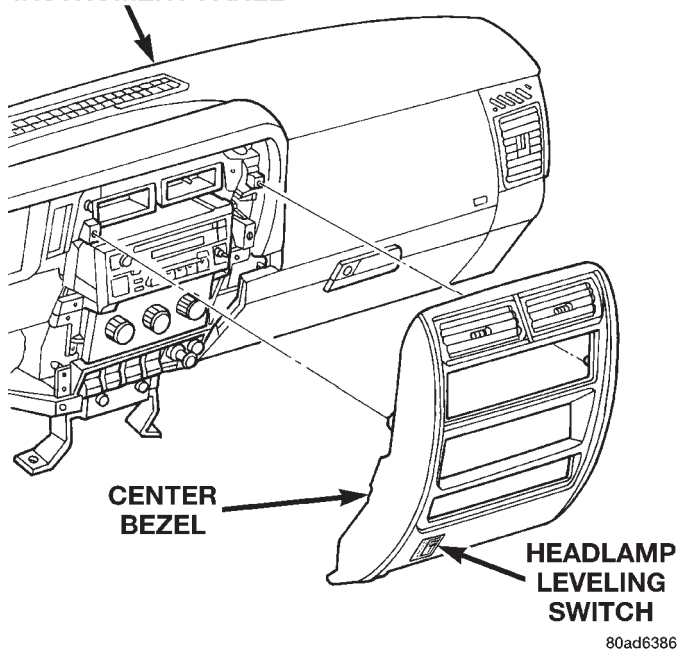
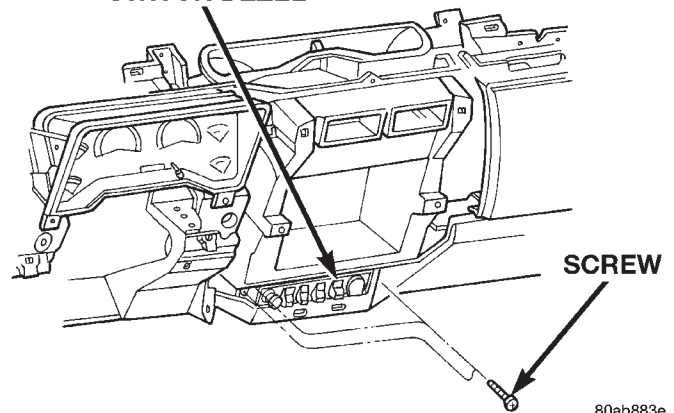

Fig. 1 Center Bezel Remove/Install
Fig. 2 Accessory Switch Bezel Remove/Install
- (1) Disconnect and isolate the battery negative cable.
- (2) Using a trim stick or another suitable wide flat-bladed tool, gently pry the instrument panel center bezel away from the instrument panel to release the six snap clip retainers (Fig. 1).
- (3) Remove the center bezel from the vehicle.
- (4) Remove the three screws that secure the accessory switch bezel to the instrument panel
- (5) Pull the accessory switch bezel out from the instrument panel far enough to unplug the wire harness connectors (Fig. 2).